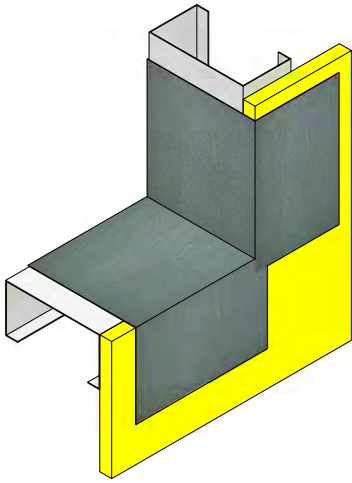

Figure 5
1. Mix SENERSHIELD-R or SENERSHIELD-VB per the product bulletin instructions. Apply a generous receiving coat to the corners of openings and out onto the substrate. (See Figure 5)